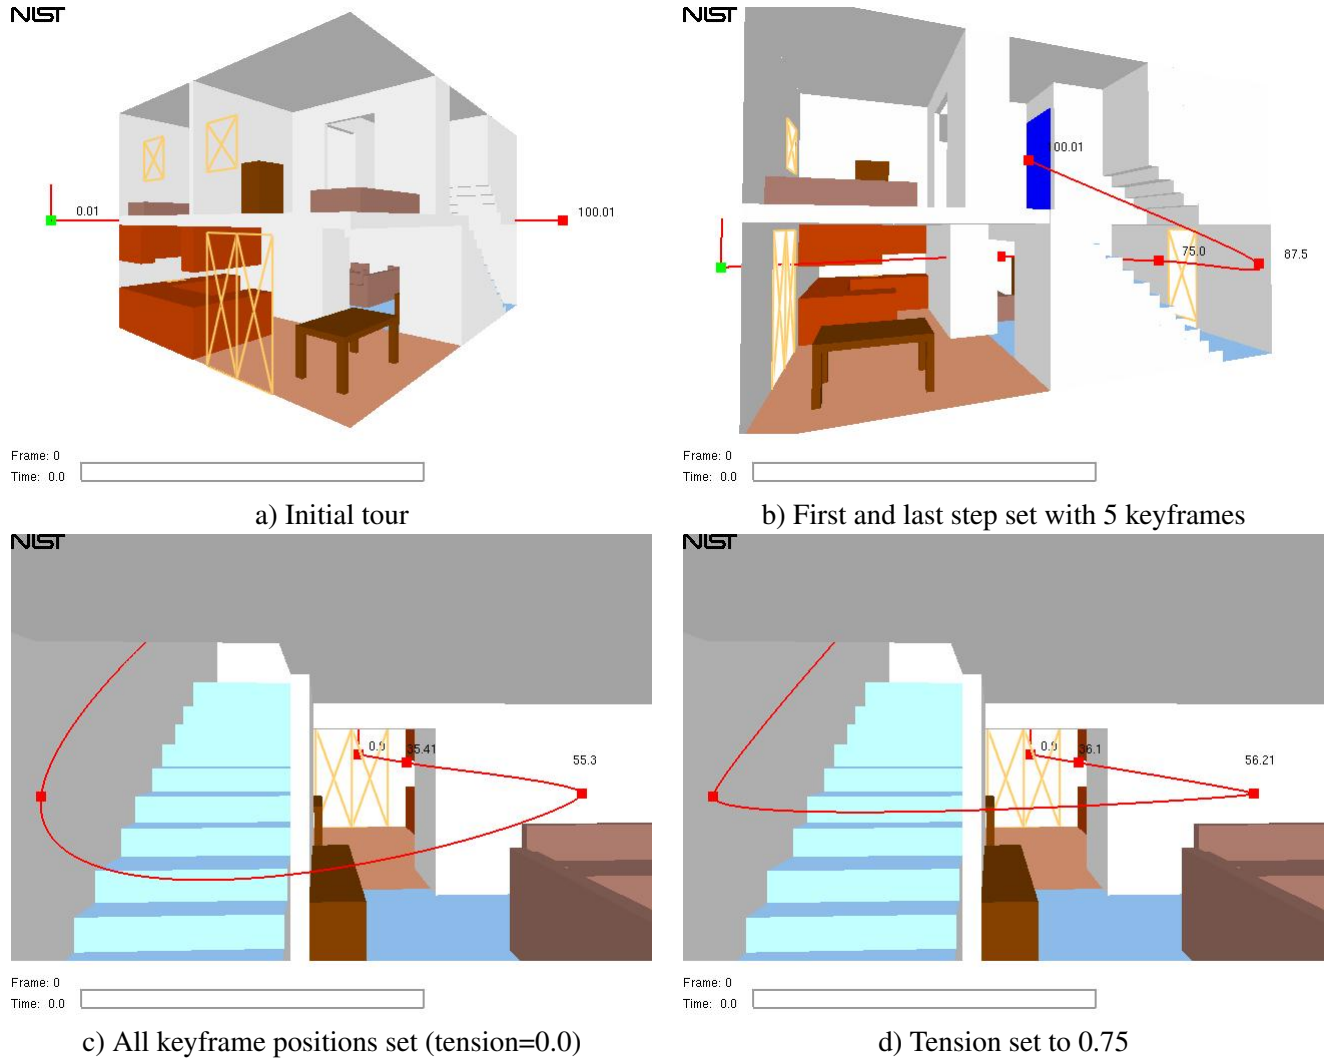

Figure 4.3: Tutorial examples for Tour option.
**Setting up a tour** The following steps give a simple example of setting up a tour in the townhouse scenario. The tour will begin at the back of the house, go towards the front door and then end at the top of the stairs. These steps are illustrated in Figure 4.3.